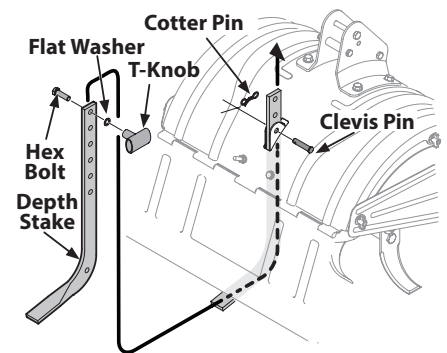

Figure 1
2. Unthread the T-knob from the top of the depth stake and remove the flat washer and hex bolt. Remove the cotter pin from the clevis pin. See Figure 1.
5. Insert the hex bolt into the top hole of the depth stake assembly. Place the flat washer on the hex bolt and thread the T-knob onto the hex bolt. Tighten securely. See Figure 1.